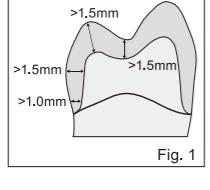

Fig. 1
- Minimum wall thickness should be 1.5 mm, 1.0 mm at margins. Prepare margins with deep chamfer or rounded shoulder (Figure 1).